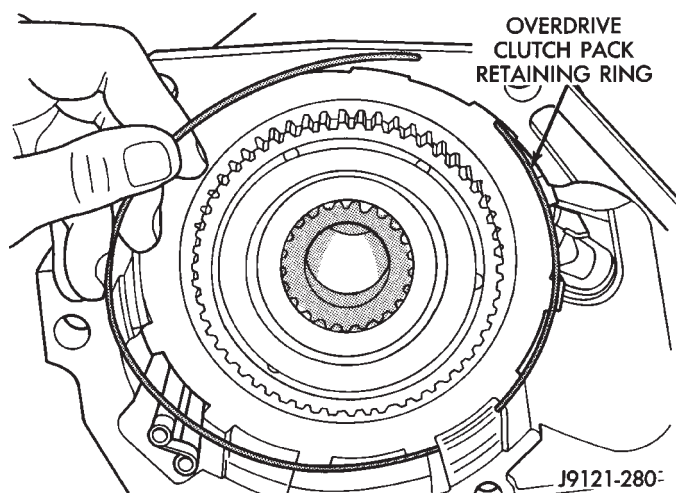

Fig. 5 Removing/Installing Overdrive Clutch Pack Retaining Ring
(5) Remove overdrive clutch pack retaining ring (Fig. 5).